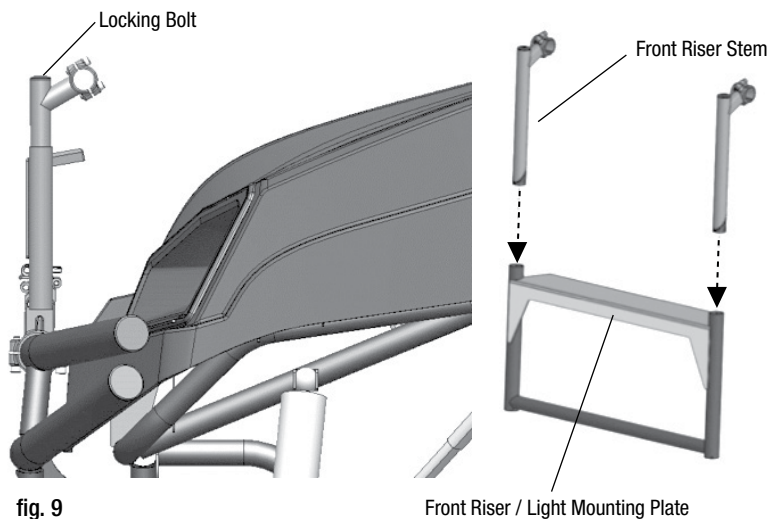

fig. 9
- 8** Note the riser orientation shown below in figure 9. Insert the 2 Front riser stems (H) into the front riser / light mounting plate a few inches in. Tighten the locking bolt at the top of the tube with allen wrench just enough to hold the riser stems in place. You will tighten **after** final assembly.